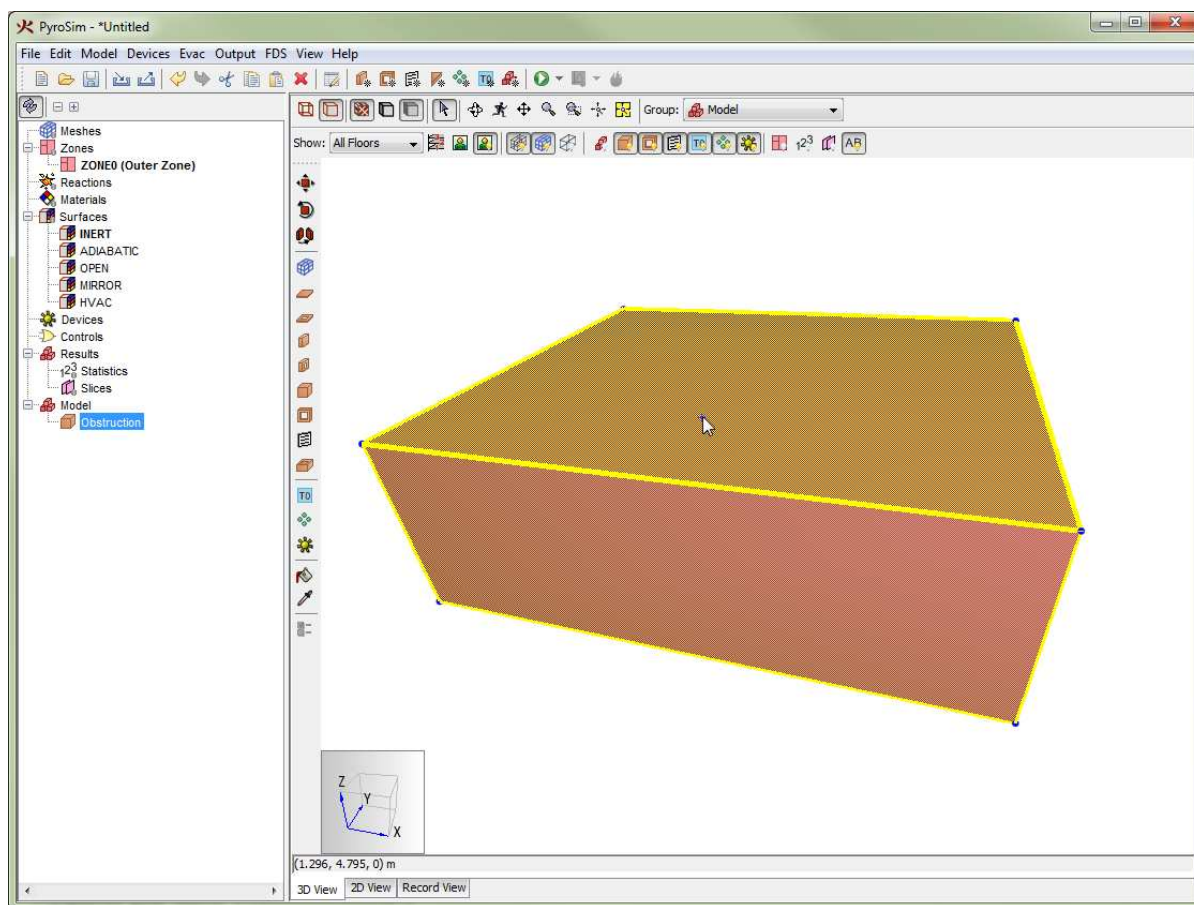

Figure 94. A highlighted face handle
3. Hover the cursor over the desired handle. If the handle is a dot, it will turn yellow. If the handle is a face, the entire face will turn yellow as shown in Figure 94.